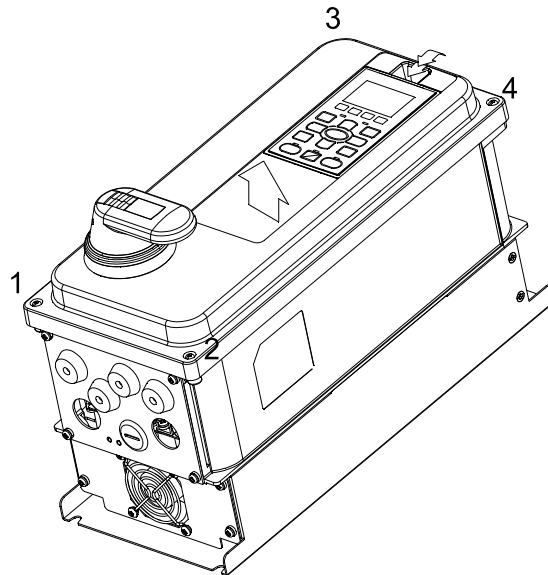

Figure 2
1. Press the hook in the top of digital keypad, then rotate to remove the digital keypad (refer to Figure 2)